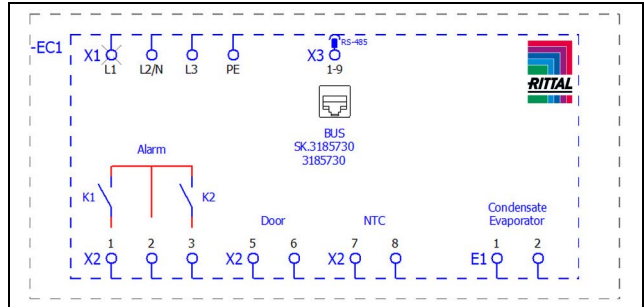

Fig. 11: Circuit diagram 3485730
- Remove the mains connector from the dispatch bag and connect to the mains as shown on the connection diagram (fig. 11).